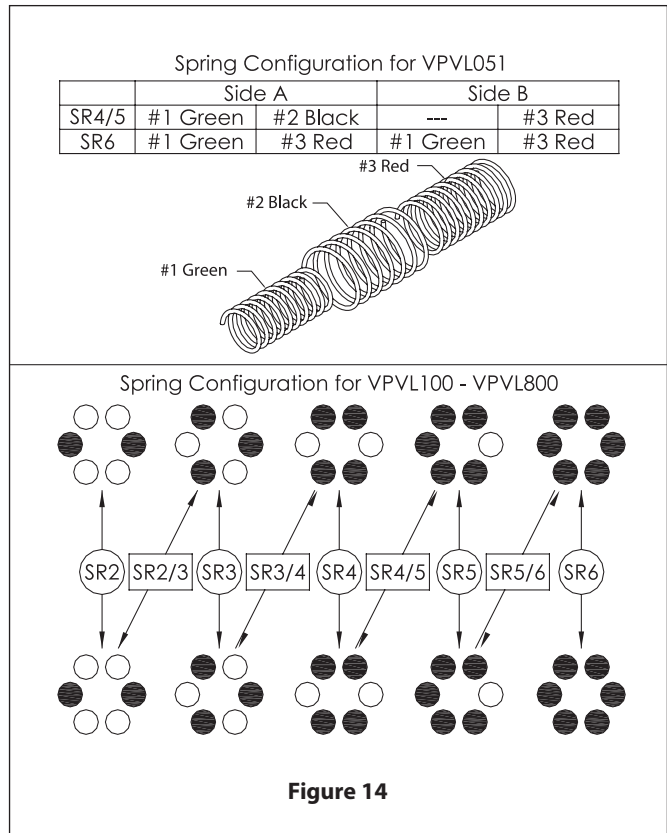

Figure 14
3. End Cap (30) and Spring Cartridge (17) Assembly, (Figures 14 through 16):
A. For spring-return actuators, insert the proper quantity of spring cartridges (17) according to the pattern shown in (Figure 14) (referring to the total number of springs).